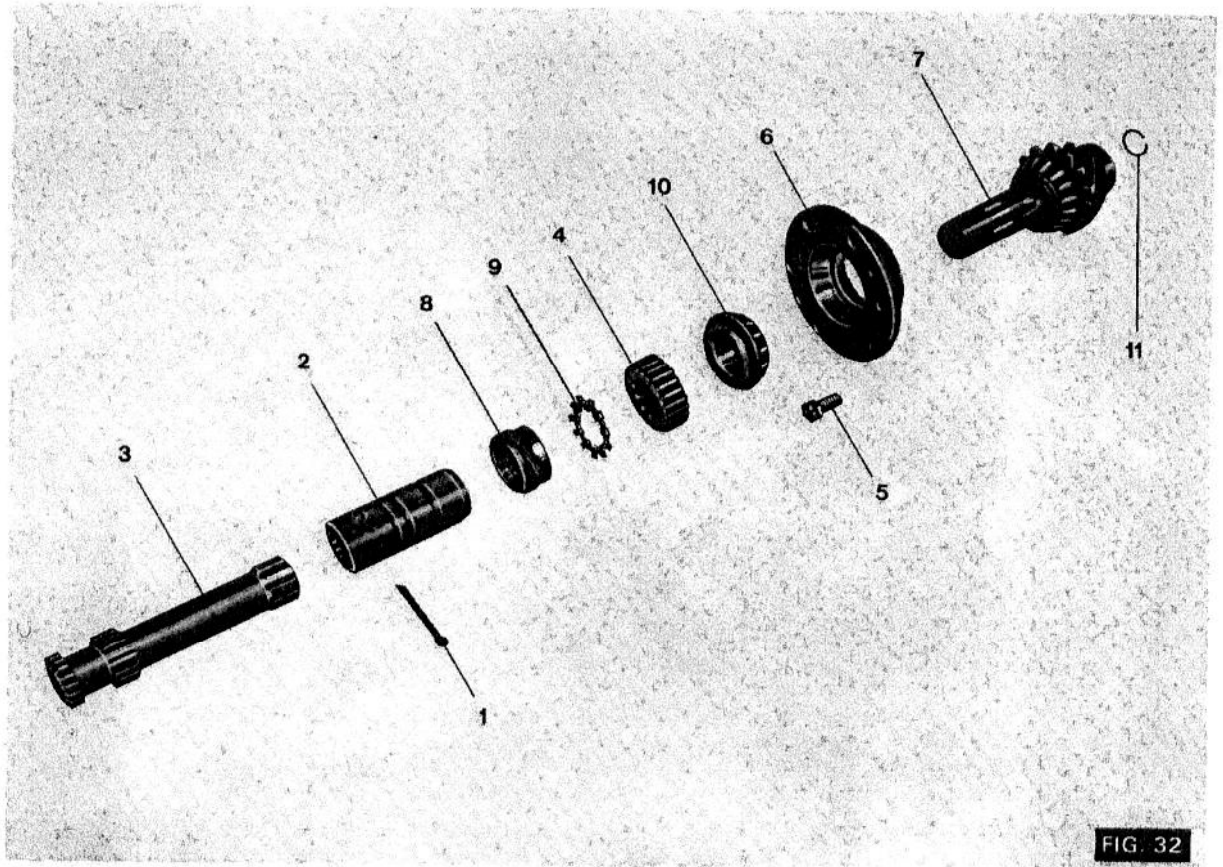

FIG. 32
3. (Fig. 32) Remove the split pin (1) from the shear tube (2), then remove the shear tube.
4. Remove the rear drive shaft (3).
6. Remove the six bolts (5) and spring washers securing the pinion housing (6).
7. Screw two of the bolts into the two tapped holes in the housing then extract pinion (7) from centre housing complete with locking ring (8) tab washer (9) hub (10) bearing housing (6) and bearings.
8. Release tab washer (9) and unscrew locking ring (8) from the pinion (7), remove the tab washer.
9. Slide the hub (4) bearing cone (10) and bearing housing (6) off the pinion (9).
2. Remove the pilot bearing snap ring (13 Fig. 32).
1. (Fig. 32) Assemble the bearing housing (6), bearing cone (10), splined hub (4), new tabwasher (9) and locking ring (8) to the pinion (7).